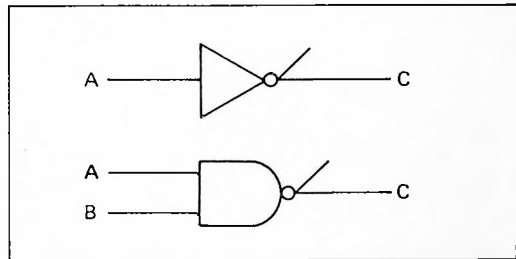

Figure C-10. Open-Collector Logic Symbols.
- j. **Open Collector Gates.** The logic gates shown in Figure C-10 are of the open-collector type. The open-collector gate has no internal pull-up resistor on the output lead, therefore, when any input (A or B) is LOW (GRD), the output transistor turns off and the output lead (C) floats. When all inputs (A and B) are floating, the output transistor in the gate is turned on and the gate generates a LOW (GRD) output. These gates are used in timing circuits, as drivers, and for wire (DOT)-And functions.